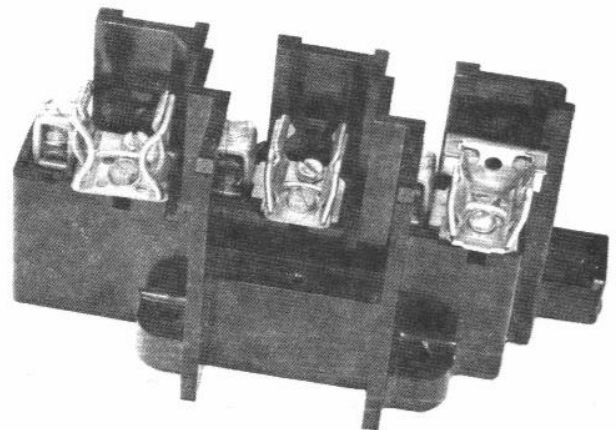

Figure 2
2. Fuse Clip and Bracket Assembly must be positioned in place and assembled to Load Base with one way screw as shown in Figure 2.